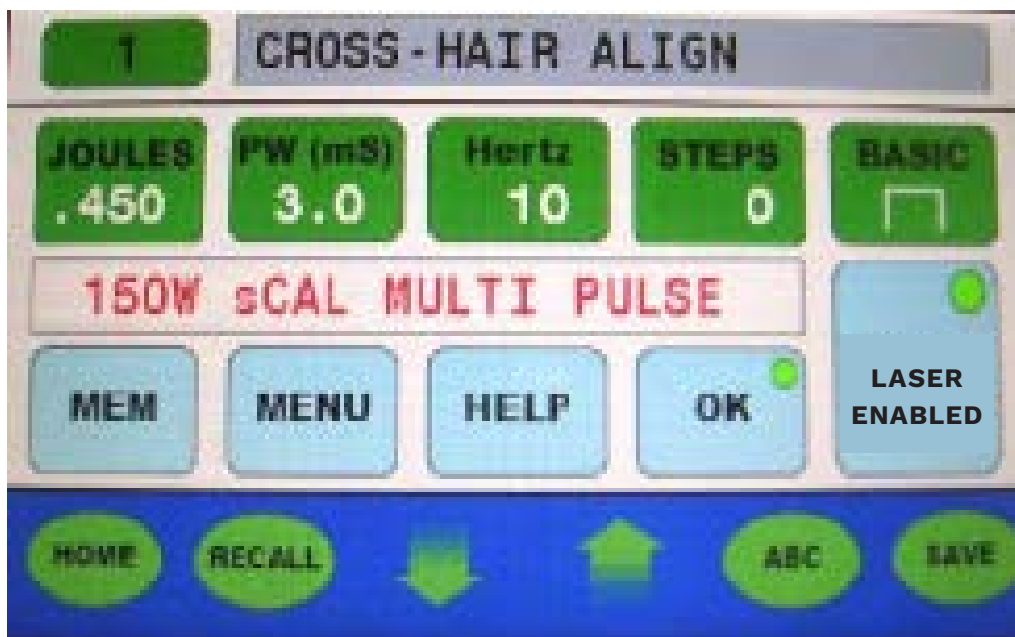

Figure 8
19. Select the **Joules button** from the **main menu**. Next, press the **up** or **down arrow** and enter either the first or second joules value (displayed in the table on **pages 206 or 208** (for correct values, be sure to reference your device’s unique certificate or ID label). The laser is enabled and the display will read “150W sCAL MULTI PULSE” (figure 8).